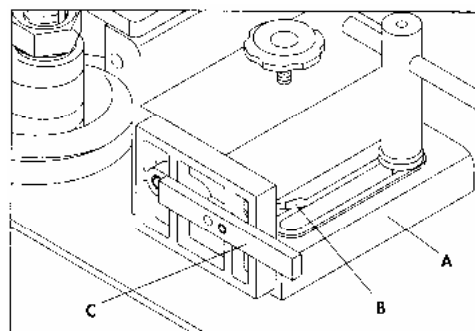
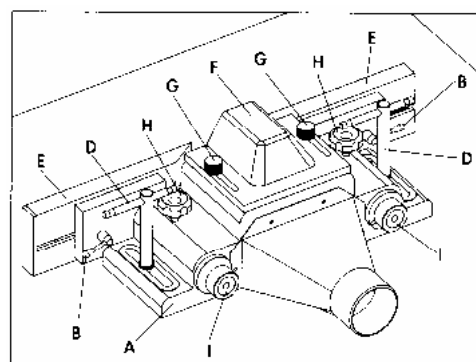

Fig.3.23
Fig.3.24
1. Place fence body (A) Fig.3.23 on the table. Fasten bar (C) to the front of the fence half using the locking lever (B) and washer. Assemble the remaining bar to the fence half in the same manner.
2. Locate the two fence locking handles (D) Fig. 3.24 and washers, and fasten fence body (A) to one of the two sets of holes located on the machine table.
3. Loosen locking lever (B) Fig.3.23, and slide rear of fence half (E) Fig. 3.24 onto locking bar (C) Fig, 3.23. Assemble remaining fence half in the same manner. Then tighten locking lever (B).
4. Assemble top cover (F) Fig.3.24, to top of fence body using the two locking knobs (G) and washers.
《WARNING》 The fence halves (E) Fig.3.24 should be adjusted endwise so the opening at the spindle is never more than is required to clear the cutter.
1. To adjust the fence halves (E) Fig.3.24 endwise, loosen the two fence locking levers, slide the fence halves to the required positions and tighten locking levers (B).
- Each fence half (E) can be moved independently, in or out, depending on the type of shaping operation that is being performed. To move the fence halves in or out, loosen one of the locking knobs (H) and turn one of the adjusting knobs (I) until the correct setting is obtained and tighten locking knob (H).
- The complete fence assembly can be rapidly positioned on the table by loosening two locking handles (D), moving the fence assembly to the desired position and tightening the two locking handles (D).